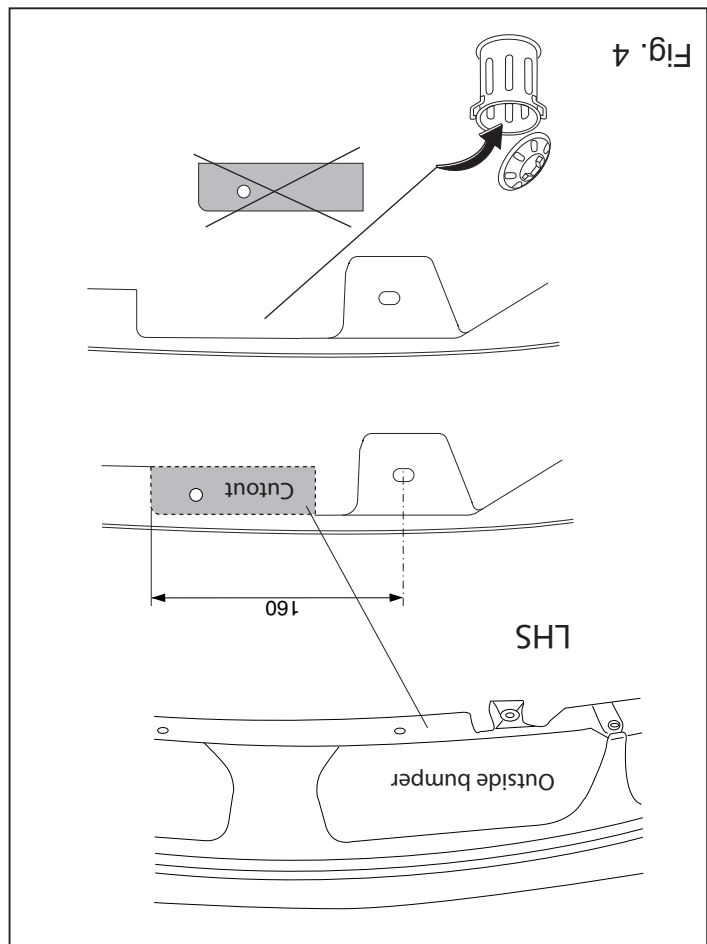

Fig. 4
14. Saw out the portions as indicated in fig. 4.